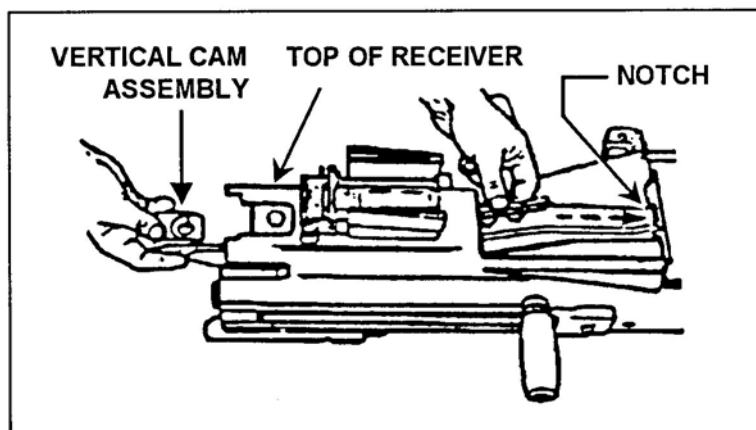

Figure 22. Engagement of the vertical cam assembly.
h. Engage the vertical cam assembly (Figure 22).